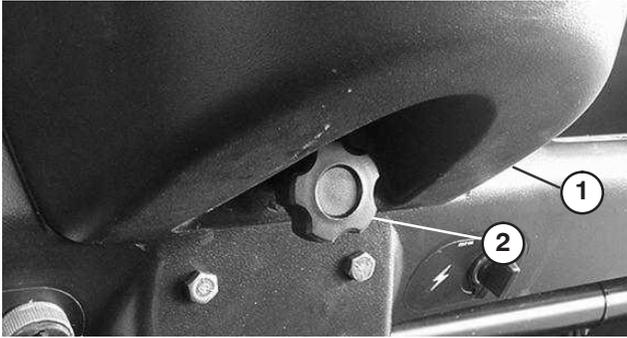

Figure 20
2. Loosen knob securing cup holder to dash (Fig. 20). Remove cup holder from dash.